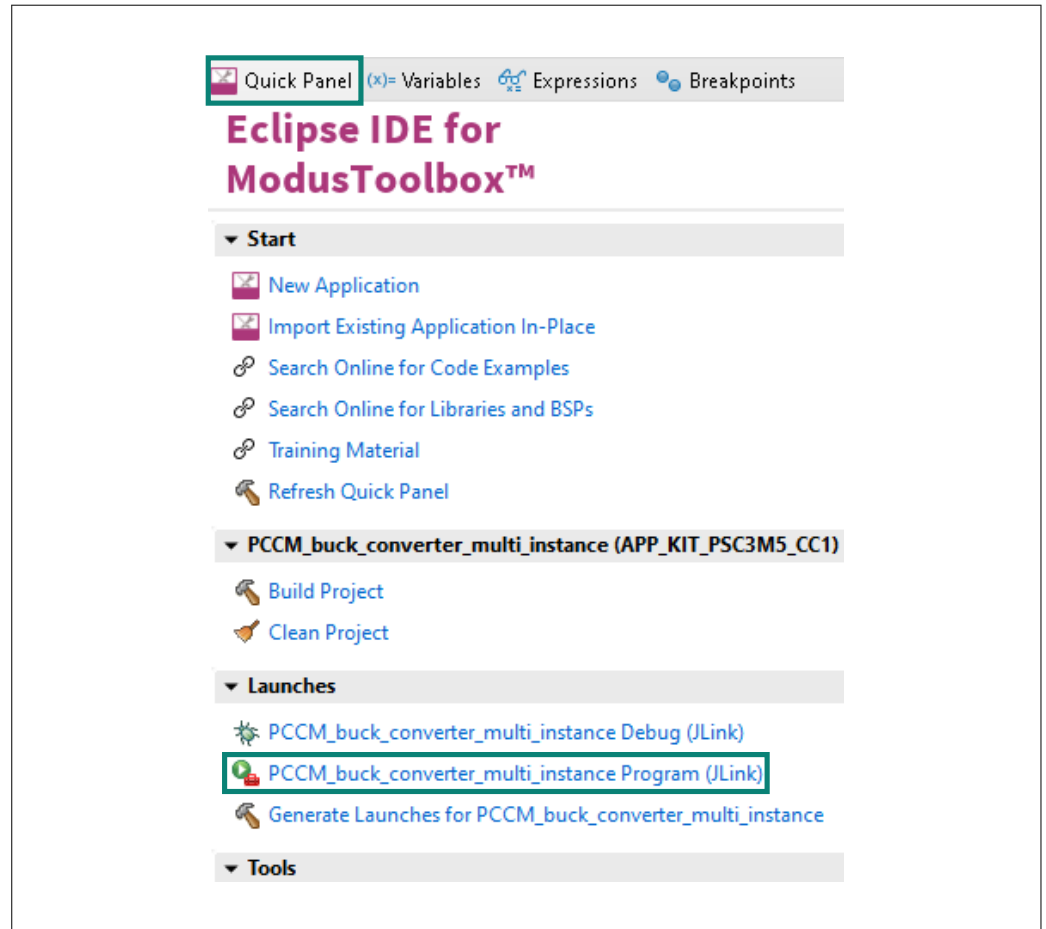

Figure 9 Programming in ModusToolbox™ software
- b. In the **Quick Panel**, click the **<App_Name> Program (J-Link)** configuration from the **Launches** section, as shown in Figure 9